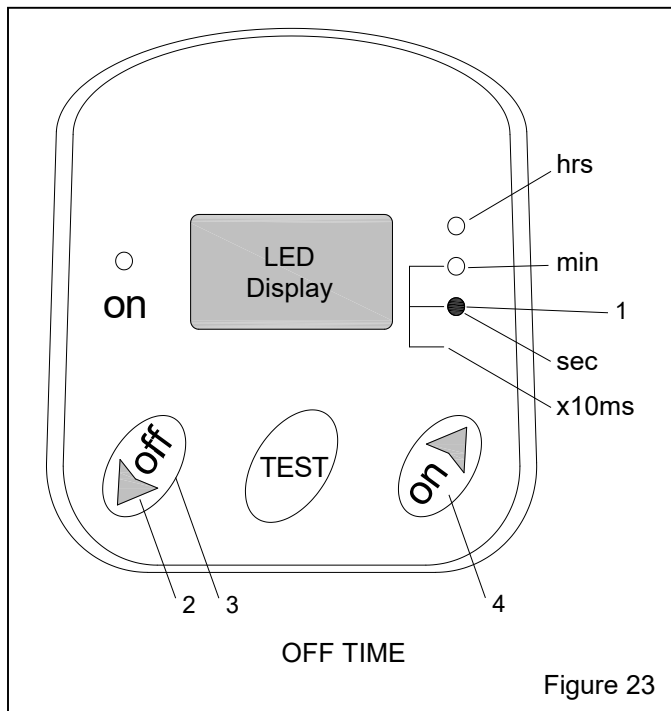

Figure 23
5.9.2 Setting pulse OFF time (time between each pulse) – Figure 23
NOTE: The numbers shown in Figure 23 signify the following step numbers:
1. Make sure the OFF subrange is set to seconds. The sec (seconds) indicator light should be lit, as shown in Figure 23. If the subrange is other than seconds, reset it as noted in Section 5.9.5.1.